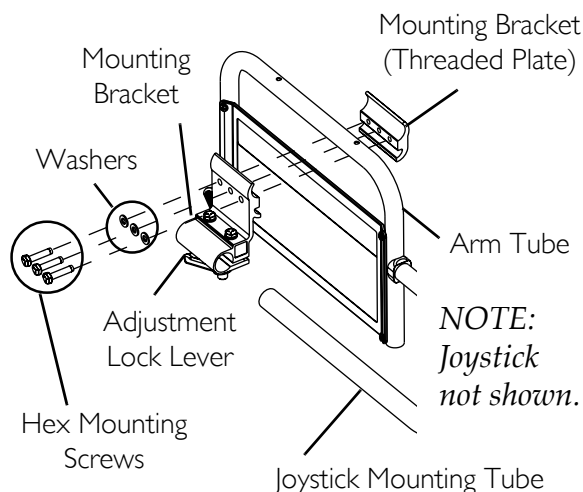

FIGURE 5.10 Repositioning Joystick - Adjustable ASBA Seats
NOTE: For this procedure, refer to FIGURE 5.10.
4. Reposition mounting bracket on opposite arm tube ensuring the threaded plate of the mounting bracket is on the inside of the arm tube as shown in FIGURE 5.10.